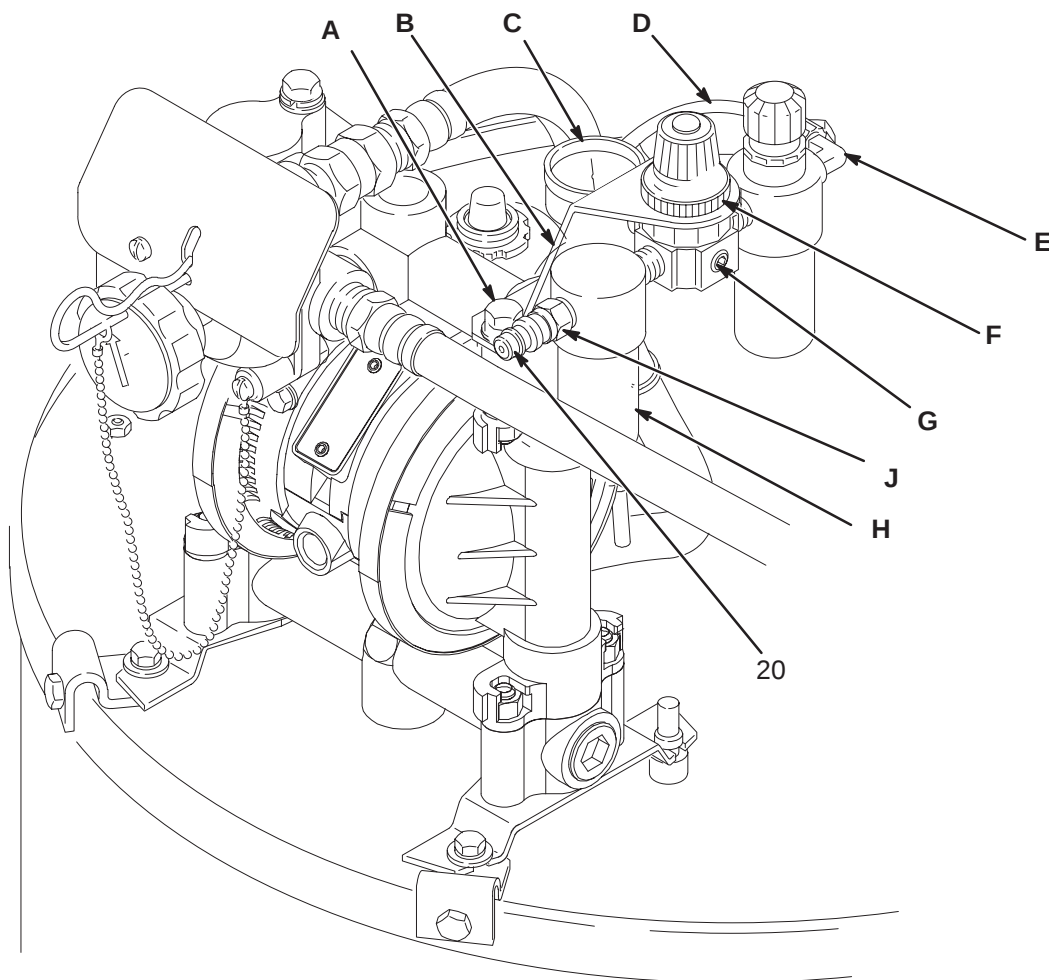

Fig 4
1. Remove the two manifold screws, flat washers, and lockwashers (A) from the pump. Install the accessory bracket (B) so that its large hole faces up. Install the screws and lockwashers (do not use the flat washers).
2. Remove the male quick disconnect fitting (20) from the pump, and install it in the air filter inlet (J).
3. Hold the FRL with the air filter (H) to the left. Install the gauge (C) in the back port of the regulator (not the top), and turn it so the gauge faces up. Install the plug (G) in the front port of the gauge.
4. Remove the lock ring (F) from the base of the air regulator knob.
5. Angle the FRL into the bracket so the gauge slides into the slot in the bracket. Screw the lock ring (F) over the regulator knob to secure the assembly to the bracket.
6. Install a 90° nylon connector (E) to the FRL outlet on the side of the lubricator. Install the other connector to the pump air restrictor inlet (not visible in Fig. 4). Tighten the connectors in a position that allows easy installation of the nylon tube (D). Install the tube.